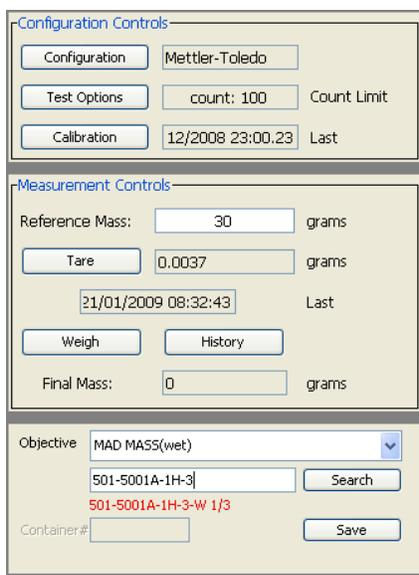

Figure 10. Sample Label ID Filled in.
5. The *Label_Id* of the selected sample will be shown under the search box (**Figure 10**).